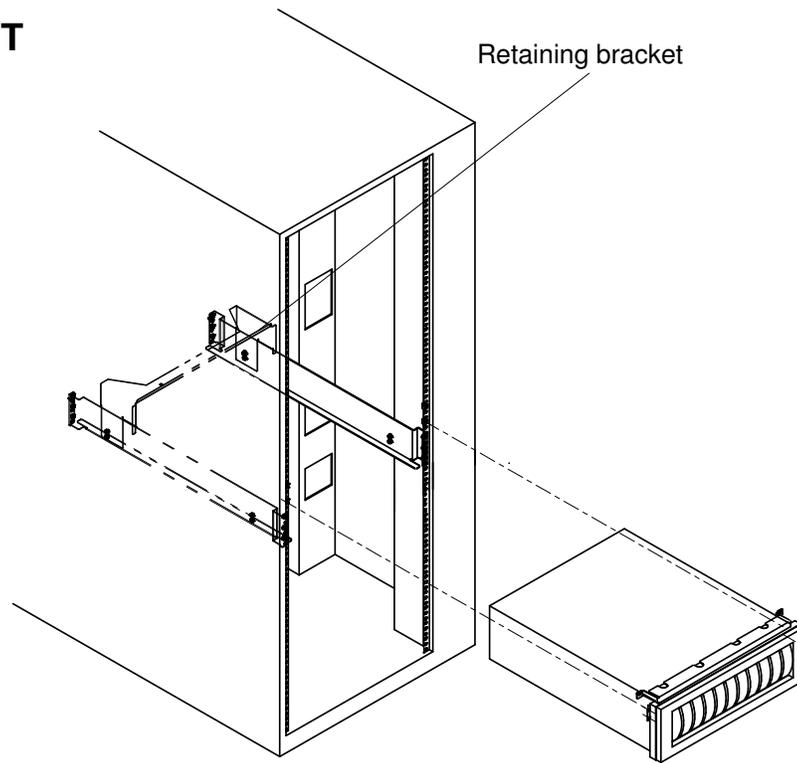

Figure 67. Positioning the DAE5000 in the rack
4. At the **rear** of the rack, position the DAE5000 rear retaining bracket as shown in Figure 67.